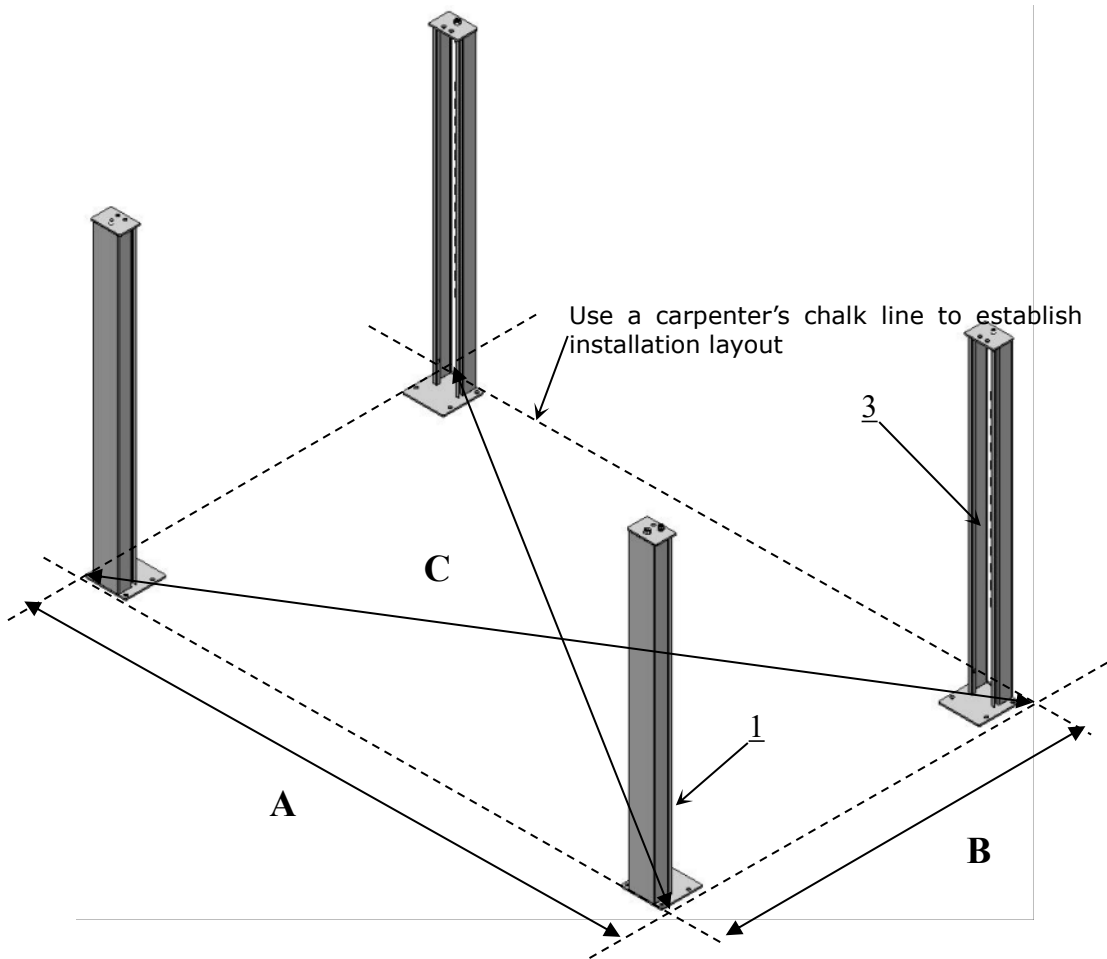

Fig.14
**C. Use a carpenter’s chalk line to establish installation layout (see Fig 14) .